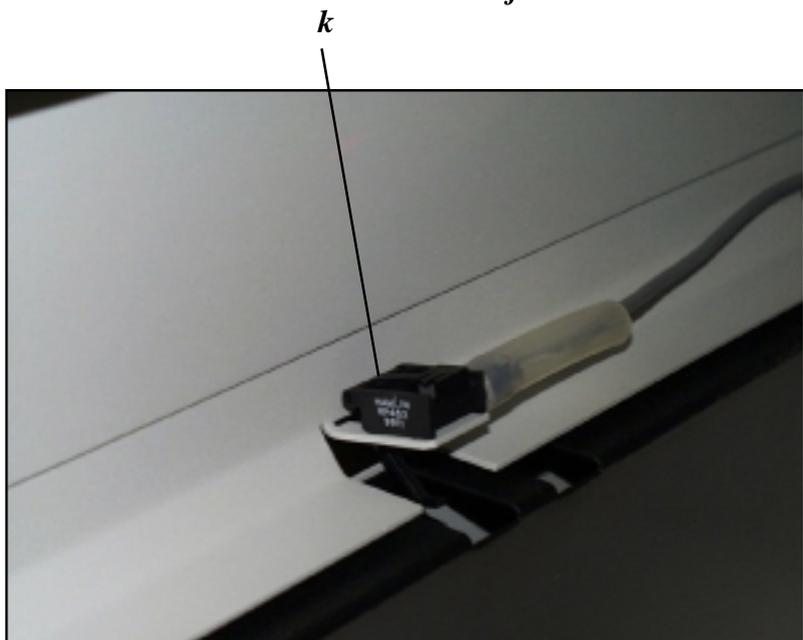

Fig. 1-I
j. Heating Element - Heats the chemistry to the operator-set temperature. The wash station does not require a heating element. A safety thermostat will act directly on the heating element in case of failure in other systems. Fig. 1-F.